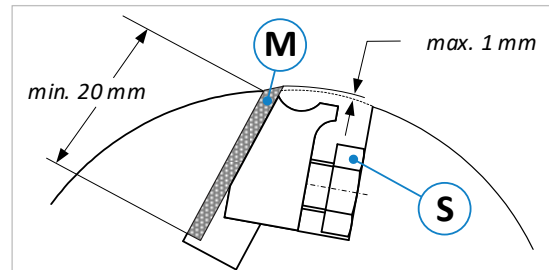
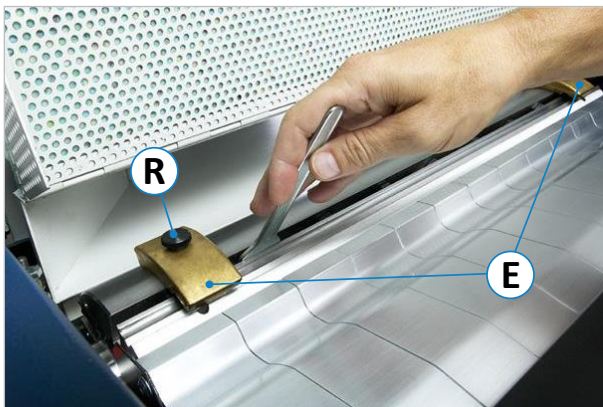

Figure 42: Traditional cutter block
Figure 43: Standard adjusters
- The knives (**M**) may only be sharpened to such an extent that a minimum clamping length of 20 mm can be maintained with a knife protrusion of max. 1 mm (see ⇒ Figure 42).
- Using a flat spanner SW17 (as shown in ⇒ Figure 43), loosen all the screws (**S**) in sequence and remove the blunt knives (**M**), see ⇒ Figure 42.